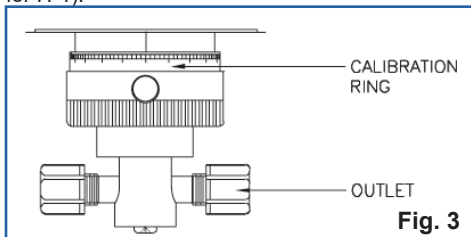

Fig. 3
**10. PUMP STROKE ADJUSTMENT.** The knurled ADJUSTMENT NUT on the pump head controls stroke to stroke piston displacement. Turning it clockwise to zero stops displacement. Turning the ADJUSTMENT NUT counterclockwise four and one half turns from zero (450 on scale) (Figs. 3,4) causes maximum pump reciprocation, i.e., 50 µl per stroke for the H-0 or 100 µl for the H-1 unit. Thus each 1-1/8 turn (112.5 on scale) of the ADJUSTMENT NUT represents 25% of maximum (12.5 µl for H-0 and 25 µl for H-1) and each graduation on the ring represents an adjustment of 1/450th of maximum (0.111 µl for H-0, 0.222 µl for H-1).